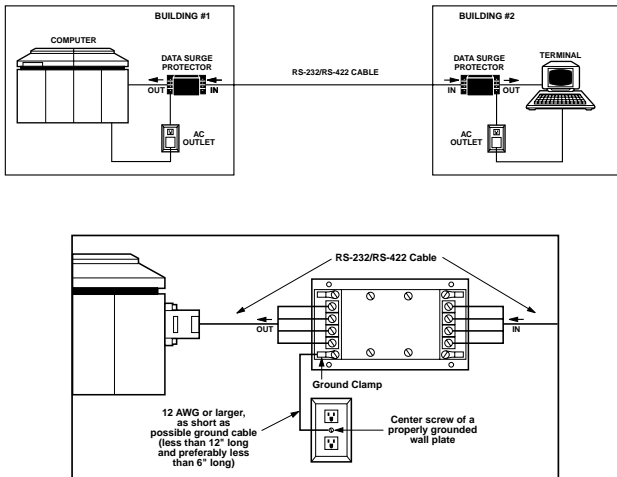

Figure 3-1. Terminal-Strip Surge Protector installation.
Connect the Surge Protector in series to the data lines you wish to protect. The unit isolates each of the data-line conductors. (See Figure 3-1.) Install the Surge Protectors in pairs, one at each end of a data line, as close as possible to the equipment you want to protect. Follow the instructions below to install your Surge Protectors:
- Step 3: Attach the individual conductors to the screw locks on the Terminal-Strip Surge Protector. Attach the side of the protector marked "IN" to the RS-232 line and attach the side of the protector marked "OUT" to the equipment you want to protect (the load). See Figure 3-1.